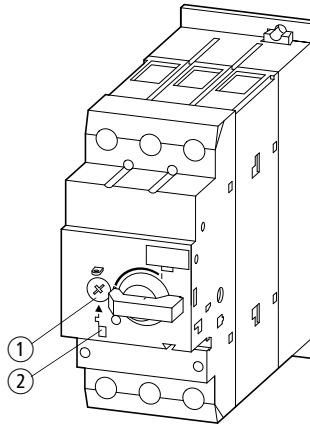

Figure 1: PKZM4/XTPR...DC1 motor-protective circuit-breakers
The rated motor current is set on the PKZM4/XTPR...DC1 units by means of a current dial ① (→ fig. 1, page 26).
Proper functioning of the circuit-breaker can be verified by means of the testing feature ② (→ fig. 1, page 26).